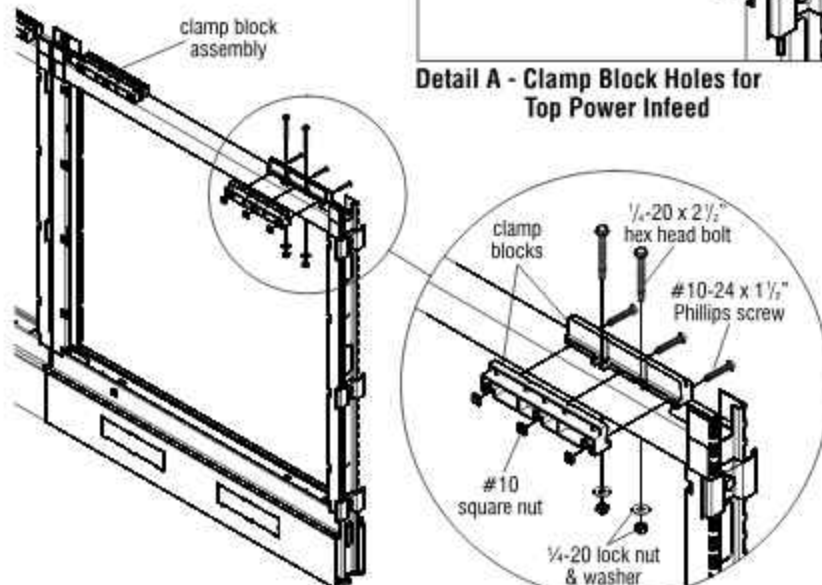
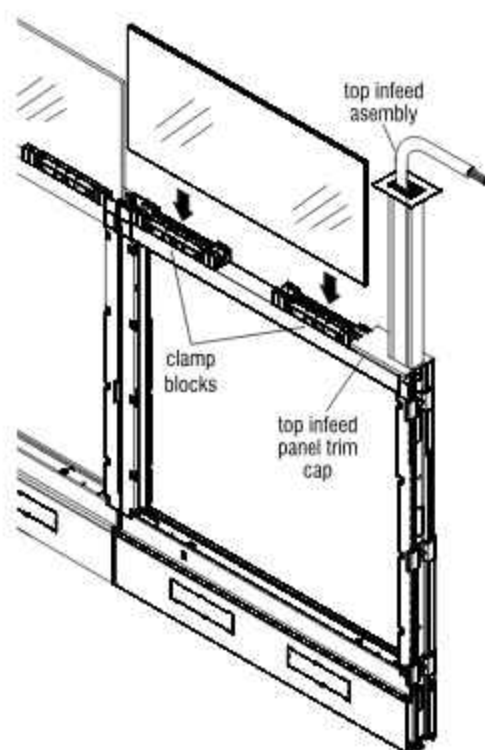

Figure 2 - Clamp Block Installation
Figure 5 - Install & Tighten Glass with Top Infeed
3. Loosely assemble the pair of clamp blocks using three #10-24 x  $1\frac{1}{2}$ " Phillips screws and square nuts. Do not tighten completely. Position the clamp-block pair over either the original location mounting holes (Figure 2), or over the newly drilled holes (Detail A), depending on if the panel is with top power infeed (see Figure 5, page 66), or without top power infeed at that location (Figure 2). Then insert two  $\frac{1}{4}$ -20 x  $2\frac{1}{2}$ " hex head bolts down through the top of the clamp block pair and down through the panel frame. Under the frame install a flat washer and  $\frac{1}{4}$ -20 lock nut onto each hex bolt and tighten snug to the frame. Do not tighten completely (Figure 2).
4. Repeat step three and install clamp blocks to the other end of the panel frame top (Figure 2).